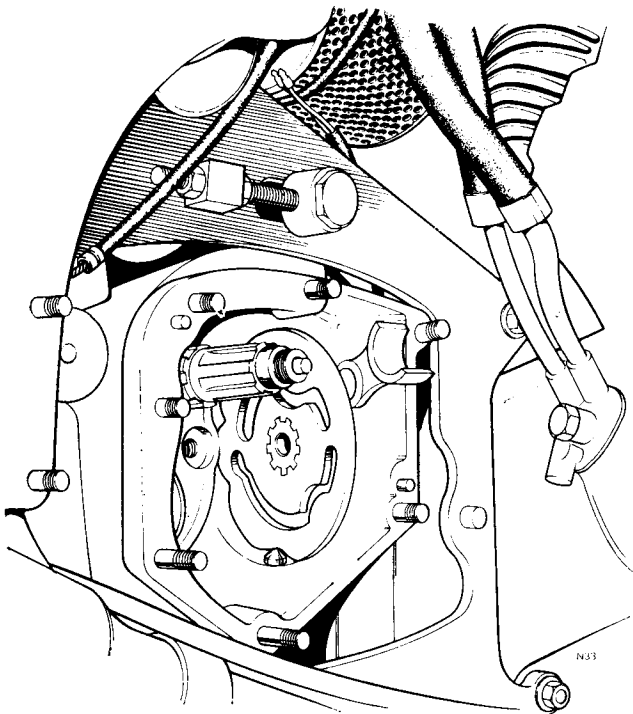

Fig. D2 Location of camplate to index plunger. Knuckle end of quadrant is aligned to top front cover stud
- 5 Lift the knuckle end of the quadrant until the top inside radius is directly in line with the top front cover stud (see *Fig. D2*), fit the camplate and sealing ring, engaging the teeth of the quadrant and camplate so that the notched edge of the camplate is towards the gearbox sprocket and the smooth edge towards the gearbox inner cover, the last notch at the bottom engaging with the camplate index plunger (see *Fig. D2*).